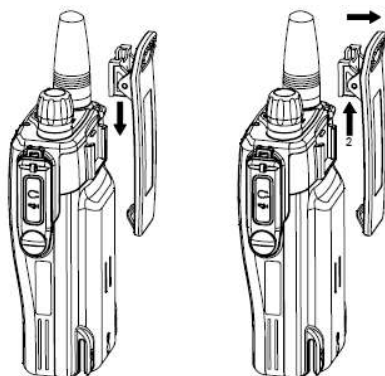

Figure 4-3) Installation and Removing the Belt Clip
- To remove belt clip from radio, push up on tab of belt clip with flat bladed screw driver and at the same time, slide the belt clip towards the top of Radio figure 4-3).